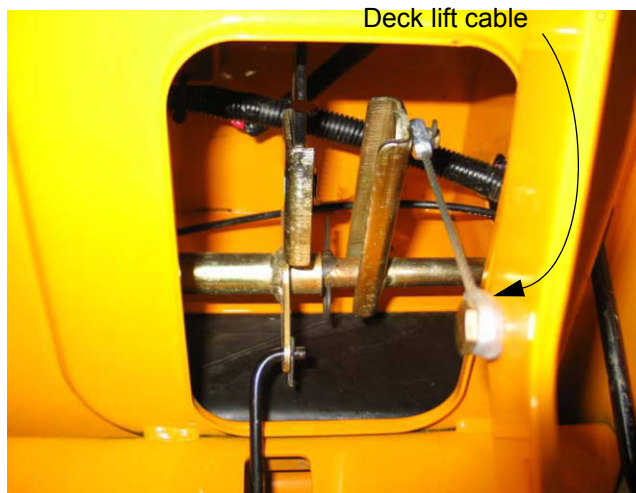

Figure 14.9
14.9. Remove the hairpins securing the deck lift cables the deck lift shaft. See Figure 14.9.